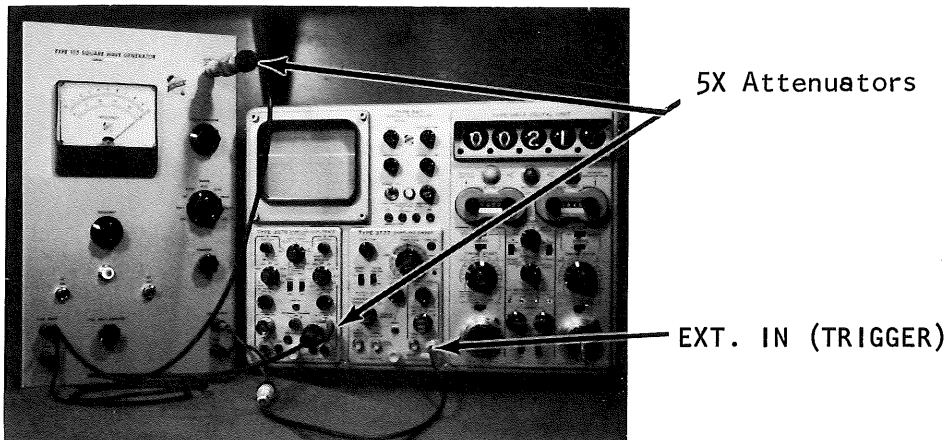

Figure 2-20
1. Apply power to a Type 105. Set output frequency of the 105 to 1 MC. Set the output amplitude to minimum (control full CCW). Connect the output of the 105 to the CH B input connector through two (2) 5X attenuators. Connect the sync output on the 105 to the EXT. IN (TRIGGER) on the 3T77. See Figure 2-20.